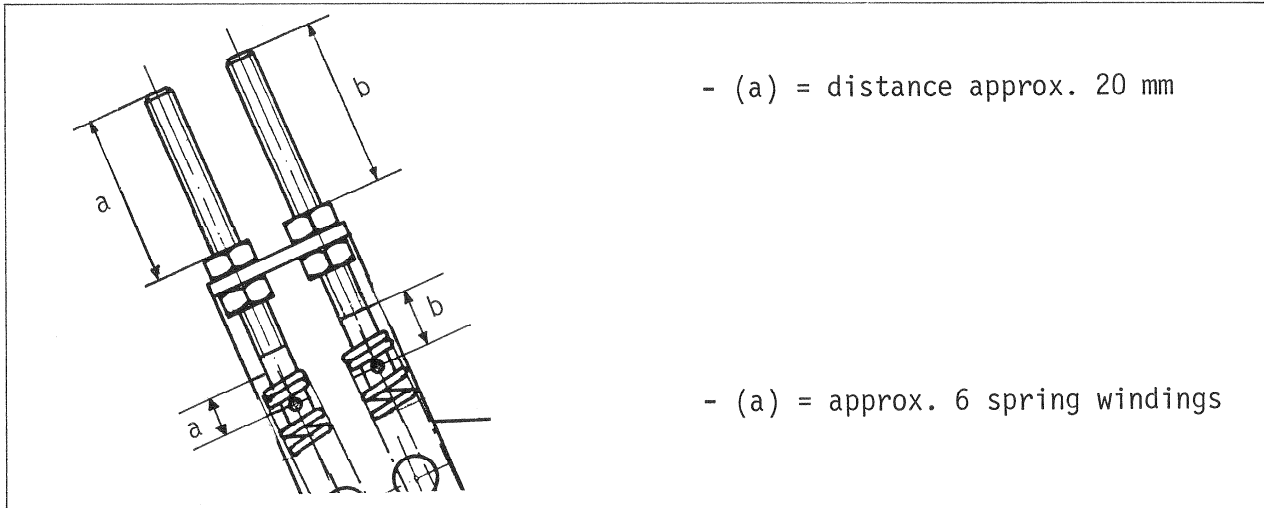

Figure 20
Presetting of spring (1). See figure 20.